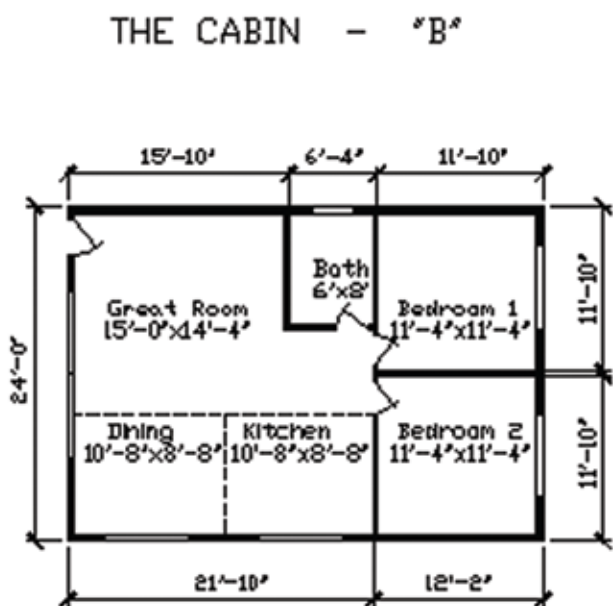
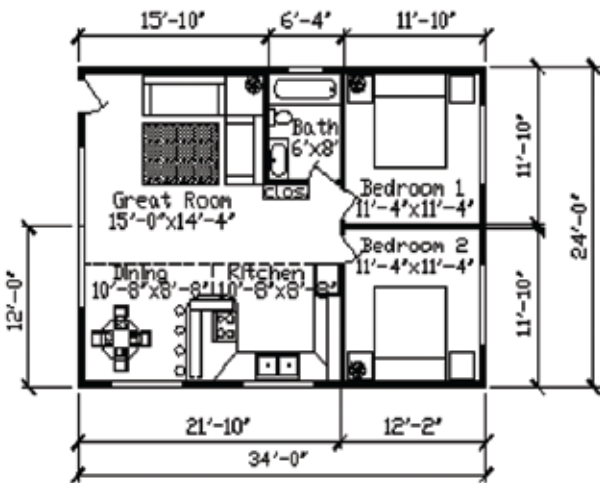

Figure 12.10
Figure 12.11
To receive a B (80 points) or an A (100 points) for this drawing, you will need to add to CabinC. Study the B drawing. You will be adding some labels and new areas (i.e. linetypes, solid fill, etc.) as shown in Figure 12.10.
After you have drawn exterior and interior walls, you fill them in to denote solid walls. You will use lines to close off the areas where there are doors and windows. You will leave open (unfilled) areas for doors and windows to denote areas that can be opened or closed. Before an area can be hatched (filled with lines or solid coloring) the area must be completely closed. Lines **MUST** be drawn using the entity snap settings to prevent leakage of the hatch pattern. The area to be hatched must be completely sealed like a container that holds water; the tiniest gap will prevent the hatch (fill) function from working. Study Figure 12.10 carefully for the placement of doors and windows, then make sure that each area of wall between the doors and/or windows is completely sealed. Zoom in very closely to check each area if necessary. Exterior lines will need to be broken (use the Break command) in order to create separate containers for the walls in order for the Hatch command to work.
1. Examine Figure 12.10 to determine the areas where the doors and windows are to be placed. Draw lines for the sides of the openings making sure the lines touch the wall lines. (You should have this completed by now.)
shown in Figure 12.10.
Below are some additional commands you will need to know for Drawings B (Figure 12.10) and A (Figure 12.11):